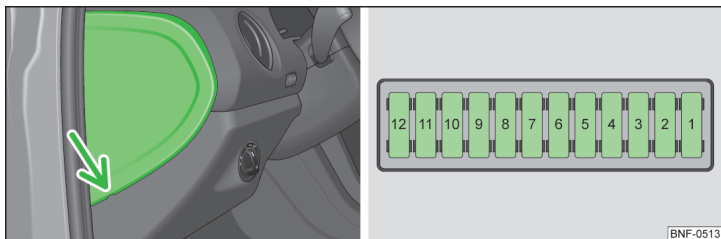

Fig. 126 Distribution board cover/fuses
- Insert a screwdriver into the opening in the cover in the direction of the arrow » Fig. 126.